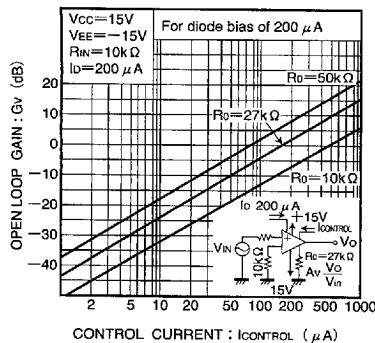

Fig.3 Open loop gain control current characteristic
This is the differential negative input pin. It is grounded with roughly the same resistance value as that of the positive input pin. The offset adjustment is also connected to this pin. Make sure a sufficiently high resistance is used, so as not to disturb the balance of the input resistance (see Figure 3).
(1) Figure 3 shows a voltage-controlled amplifier (AM modulation) as an example of an application of the BA6110.
The diode impedance $R_d = (26 / I_b \text{ (mA)}) \Omega$, so that the Pin 3 bias current $I_D = (V_{\text{CC}} - 1\text{V}) / \text{PIN 3}$. The graph in Figure 3 shows the control current in relation to the